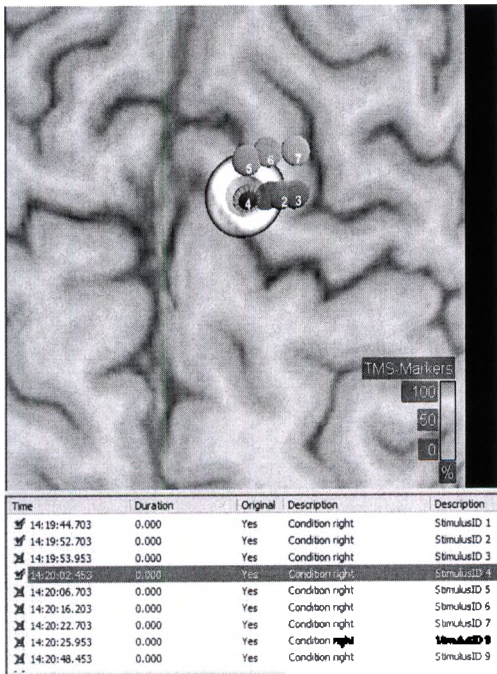

FIGURE 50: POSITIONING THE CROSSHAIR OVER A TMS MARKER
- Position the crosshair at the location where you wish your image marker to be placed. If you want to place the image marker over a TMS Marker, select the TMS Marker in the list. The position of the crosshair will be adjusted according to your selection, as displayed in Figure 50.